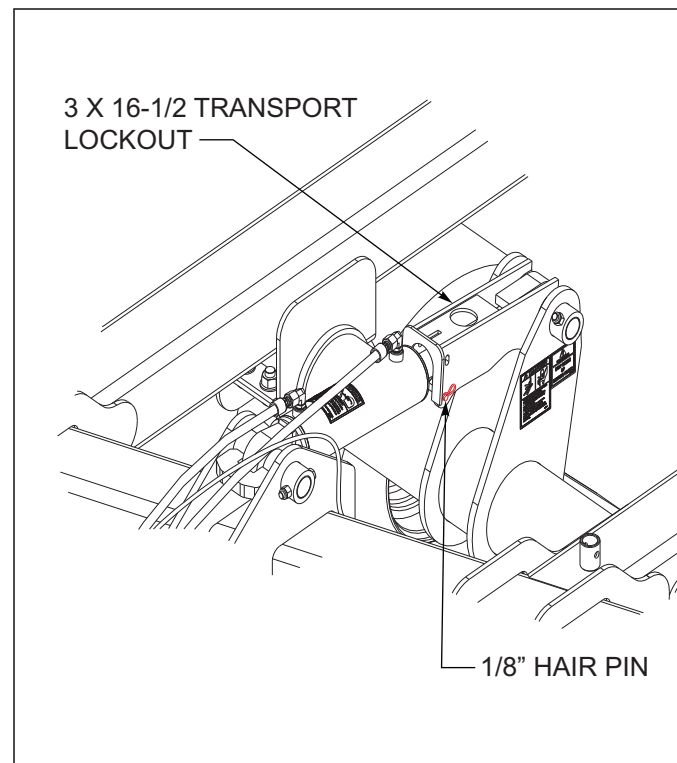

Figure 4-11: Installed Transport Locks
10. Install transport locks on lift system. Do not depend solely on implement hydraulics for transport. (See Figure 4-11).